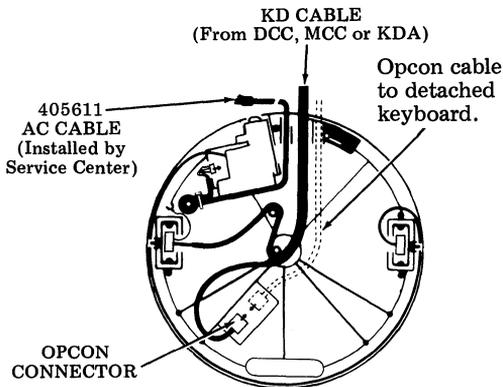

Fig. 2—Removal of Opcon Cable
- 2.05 Remove opcon cable from opcon connector located in monitor base. See Fig. 2.